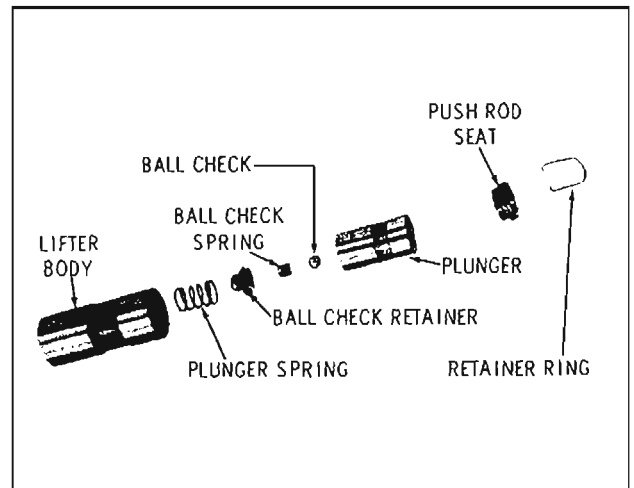

Fig. 3-410 Valve Lifter Exploded View
2. Assemble ball check and retainer into plunger. (Fig. 3-410) Make sure retainer flange is pressed tight against bottom of recess in plunger.